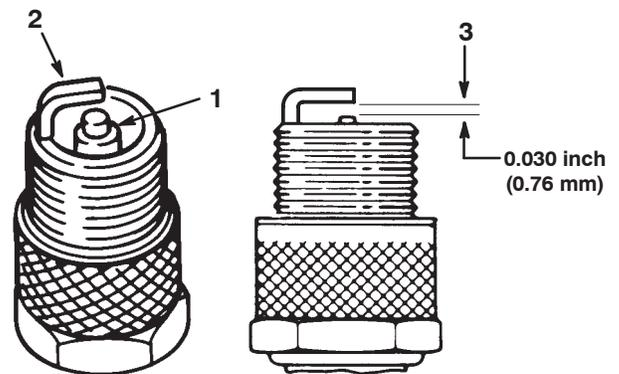

Figure 36
- Look at the center of the spark plug(s) (Fig. 36). If you see light brown or gray on the insulator, the engine is operating properly. A black coating on the insulator usually means that the air cleaner is dirty.
- Check the gap between the center and side electrodes (Fig. 36).
Note: Bend the side electrode (Fig. 36) if the gap is not correct.